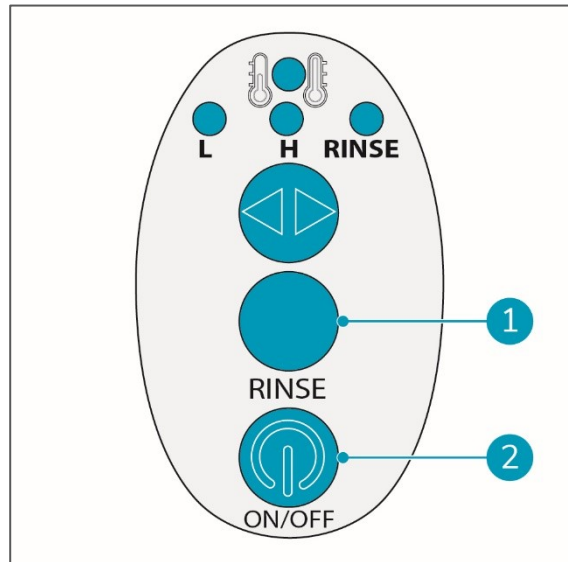

Figure 22
5. Press the ON/OFF button (fig 22, pos 2) on the handle control.
6. Press the RINSE button (fig 22, pos 1).
9. Press the ON/OFF button (fig 22, pos 2) on the handle control.